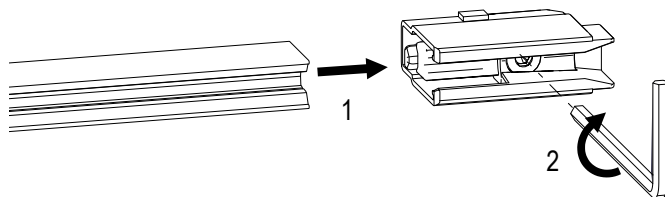

Fig. 7: Put the end cap on the conductor rail and tighten the screw
- Mount end caps at the end of the rails, push power terminal onto the copper rail, put on end caps and then tighten clamping screw with Allen screw (2 Nm) (Fig. 7). Pay attention to color coding: Install green end caps on PE grounding conductor pole. Install black end caps on phases and data poles